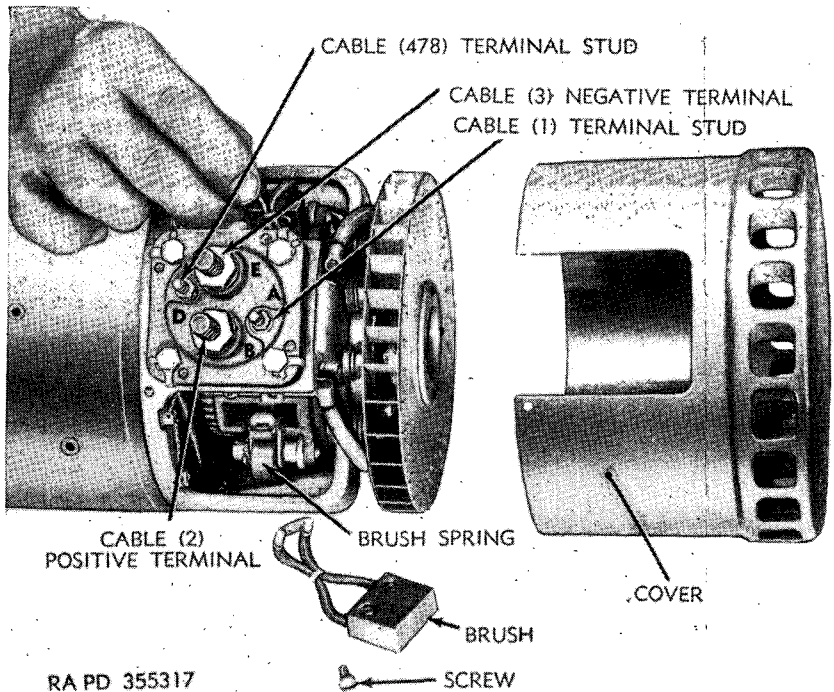

Figure 207. Installing brushes in generator.
b. BRUSH INSPECTION AND REPLACEMENT (fig. 207). Cut locking wire from screws holding commutator end cover and remove five screws and lock washers. Remove cover by tapping it gently with a soft-faced mallet. Inspect brushes for wear. If they are burned or so short that the brush springs rest almost on the brush holder, replace the brushes.
(1) If mounting plate was removed from generator, install it with six lock washers, nuts, and jam nuts. Use a new gasket between generator mounting plate and mounting head. If generator drive shaft adapter was removed, install a new gasket between accessory case and adapter, and secure adapter to accessory case with two screws. Install generator drive shaft oil seal.
(2) Record replacement on DA AGO Form No. 478.
- (3) Position generator to accessory case by alining dowel pin in upper right hole in mounting plate. Install generator to accessory case by tightening five bolts and lock washers. Lock bolts with locking wire. Install four cables to terminal (fig. 207) as follows: cable (3) and ground strap on terminal "E," cable (1) on stud "A," cable (478) on stud "D," and cable (2) on terminal "B." Secure two small cables with serrated nuts, lock washers, and cotter pins. Secure two large cables with nuts, lock washers, and cotter pins. Install power plant (par. 160). Install top deck (par. 161).